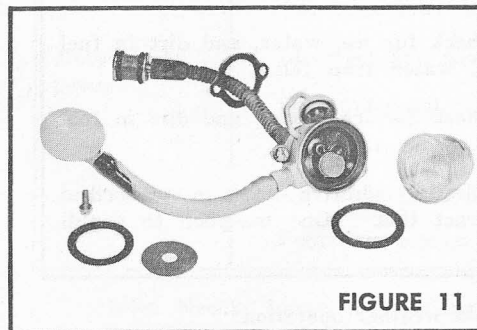

FIGURE 11
7. **CARBURETOR:** Do not screw adjustments in too tight. Remove the pump base portion for inspection and cleaning (figure 11). It is recommended that carburetor overhaul should be performed by your servicing dealer.